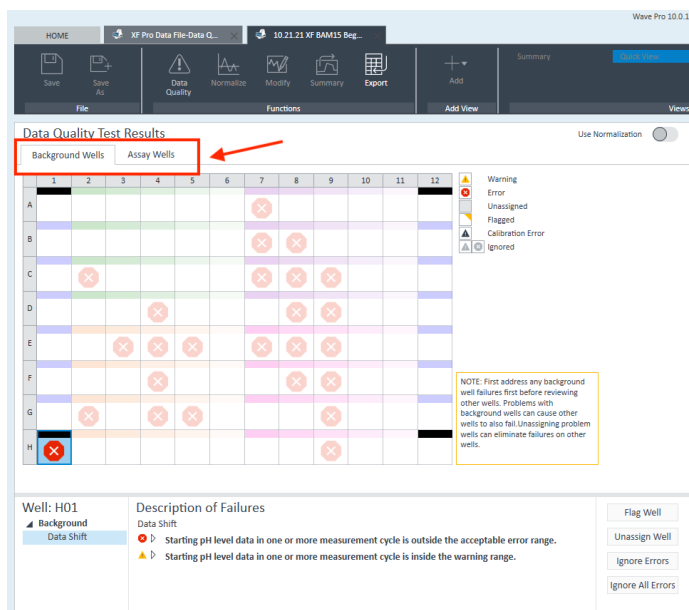

Figure 6. Temperature and Background warnings and errors tabs.
5. If there are Temperature or Background warnings or errors, those will appear in a separate tab above the plate map (Figure 6), and must be addressed (e.g., ignore the error/warning or unassign the from the plate map) before you review assay well warnings/errors. For the complete list of data quality tests and descriptions of each test, please see section 3 of this document.